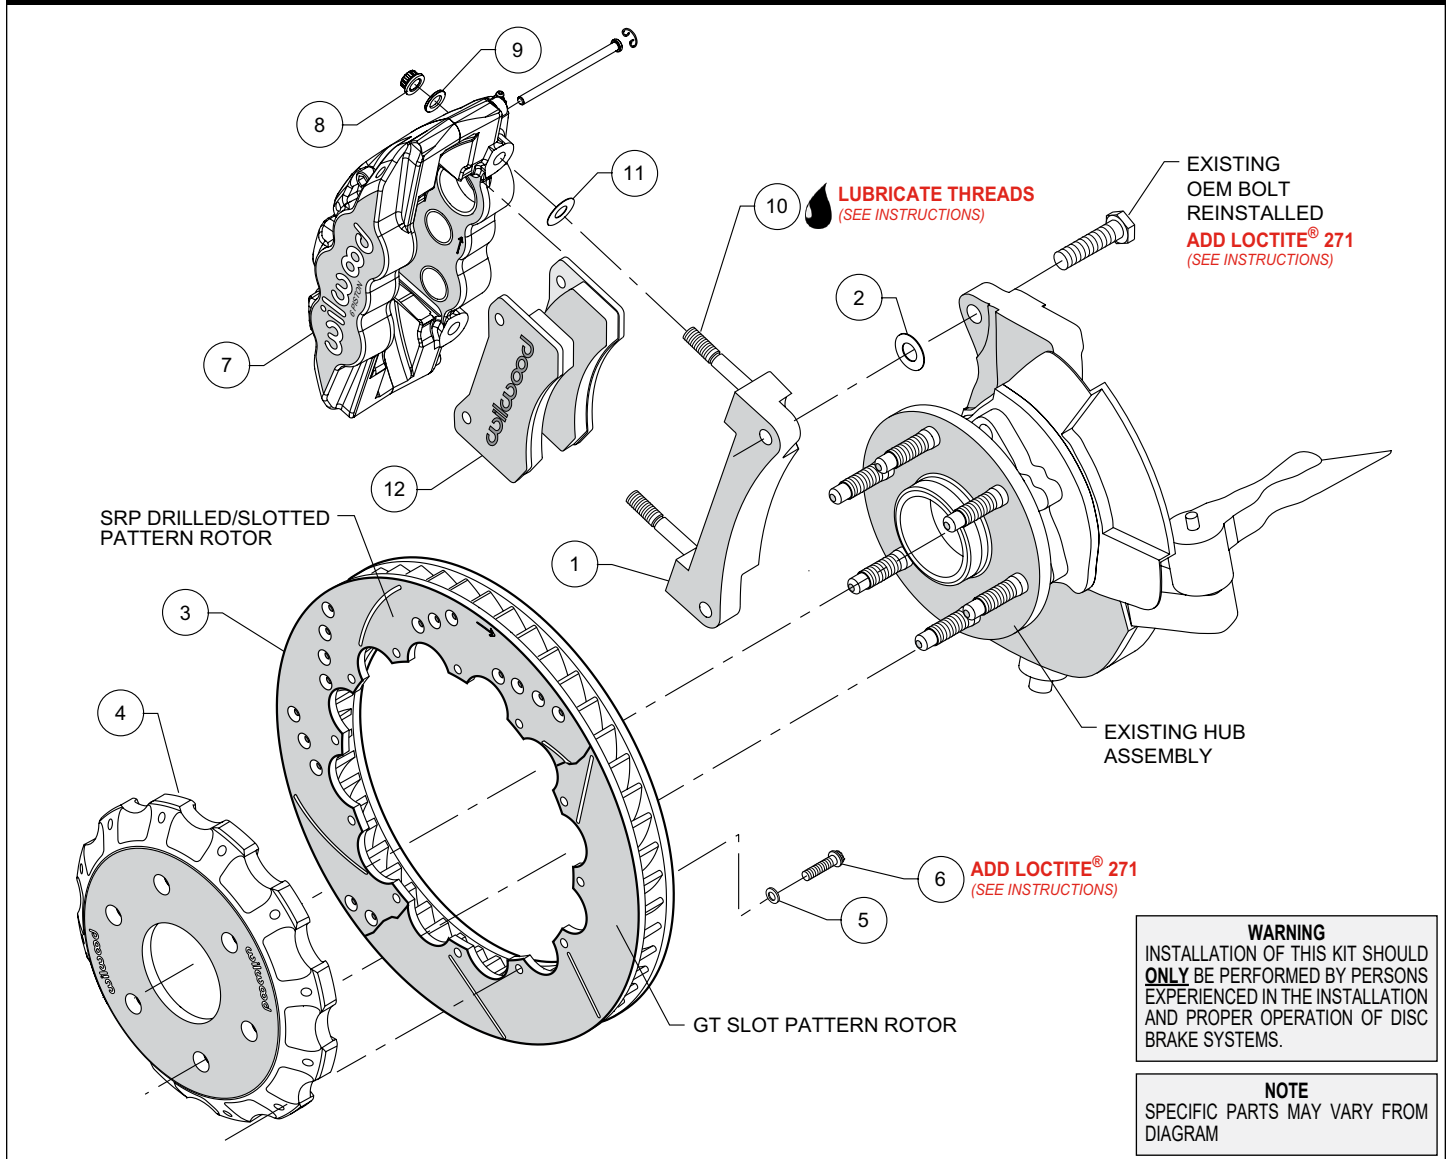
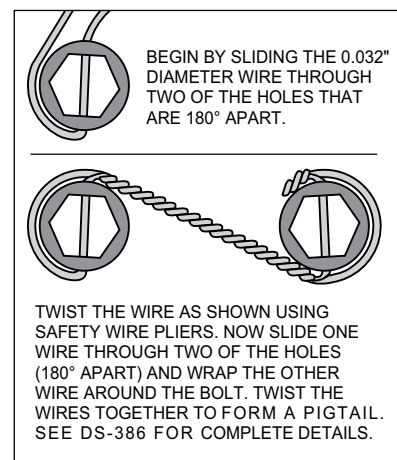

Figure 1. Typical Installation Configuration
Figure 4. Safety Wire Diagram
NOTE: Numbers in parenthesis refer to the parts list and Figure 1 on the preceding pages.
- The caliper mount bracket assembly (1) should be installed first with clean, dry threads on the mounting bolts. Install the bracket on the outboard side of the spindle by sliding the original OEM bolt through the OEM mounting ear bolt hole from the backside, through washer (2) and into the bracket (1). The bracket must tighten squarely against the outboard side of the caliper mount bosses on the spindle. Inspect for interference from casting irregularities, machining ridges, burrs, etc. Use one thin shim (2) between the bracket and spindle during initial trial fitting.
- With the larger I.D. side of the rotor (3) facing away from the hat (4), bolt rotor (3) to hat (4) through the backside of the rotor using washers (5) and bolts (6). Apply red *Loctite*® 271 to the bolt threads and torque to 140 **in-lb** using a criss-cross pattern. For an added measure of security, the bolts may be safety wired using standard 0.032 inch diameter stainless steel safety wire as shown in Figure 4. Please refer to Wilwood's data sheet DS-386 (available at www.wilwood.com/Pdf/DataSheets/ds386.pdf) for complete safety wire installation instructions.
- Install one shim (11) over each stud (10) on the radial mount bracket (1). Slide the caliper (7) in place over the studs and rotor and install the washer (9) and lock nut (8) to hold the caliper in place. The caliper bleed screws should be pointing up. Snug the lock nuts (8) and check that the rotor (3) is centered in the caliper (7). Add or subtract .029" shims (2) as necessary between the caliper mount bracket (1) and the caliper mount bosses on the spindle to center the caliper (7).
- Remove the two pad retaining pins from the caliper (7) by carefully popping out the pin retaining clips and sliding out the pins. Insert the brake pads (12) into the caliper from the bottom, Figure 1. With the friction material facing the rotor, secure the brake pads in place with the pad retaining pins and clips. Reinstall the caliper onto the caliper mounting bracket and temporarily tighten the lock nuts. Check that the top of the brake pad is flush with the outside diameter of the rotor. If not, adjust by adding or subtracting shims (11) between the caliper and the bracket.
- Once all clearances have been checked, remove the wheel, caliper and rotor from the spindle and hub. Secure the caliper mounting bracket (1) to the spindle using red *Loctite*® 271 on the bolt threads. Torque the bolts to manufacturer's specifications. Reinstall the rotor and again use several lug nuts to hold it in place. Lubricate caliper mounting studs and nuts with lightweight oil, reinstall the caliper, torque the caliper nuts (8) to 47 ft-lbs.